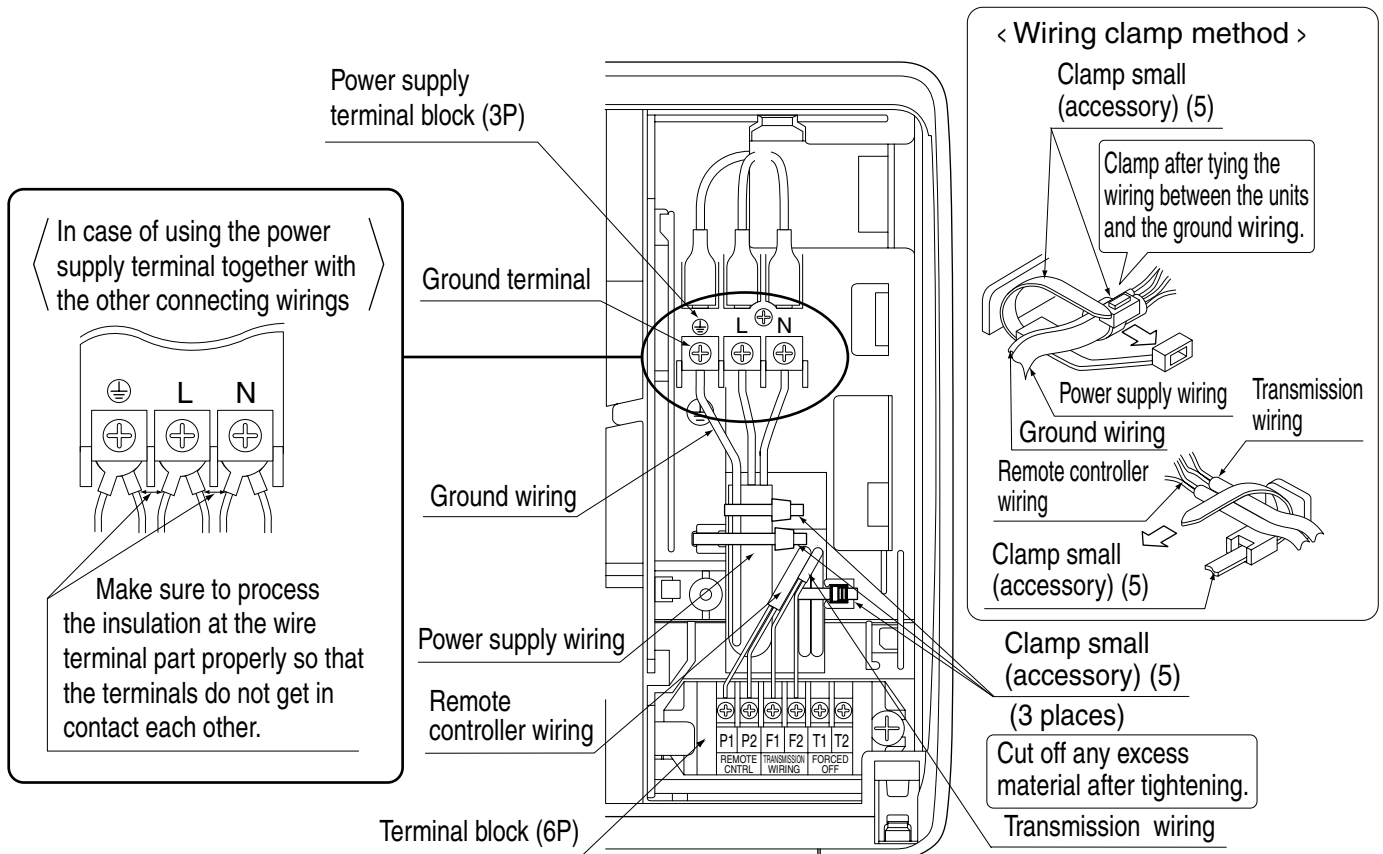

Fig. 20
(Refer to Fig. 20)
When doing this, tie the remote controller wiring and the transmission wiring using the included clamp (small) (5) and then firmly secure using the included clamp (small) (5) according to the figure. **(Refer to Fig. 20)**